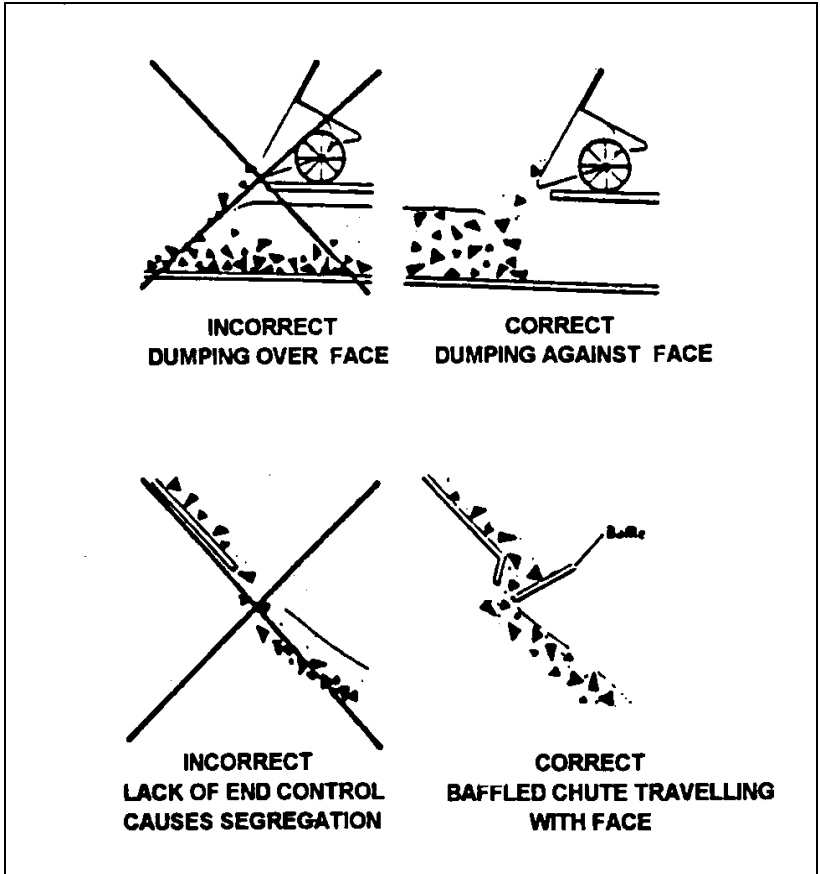

Fig 12-3-1 Placing Concrete
- c. Concrete shall always be placed towards the face of the concrete already in position (Fig 12-3-1). This assists compaction and lessens the risk of segregation